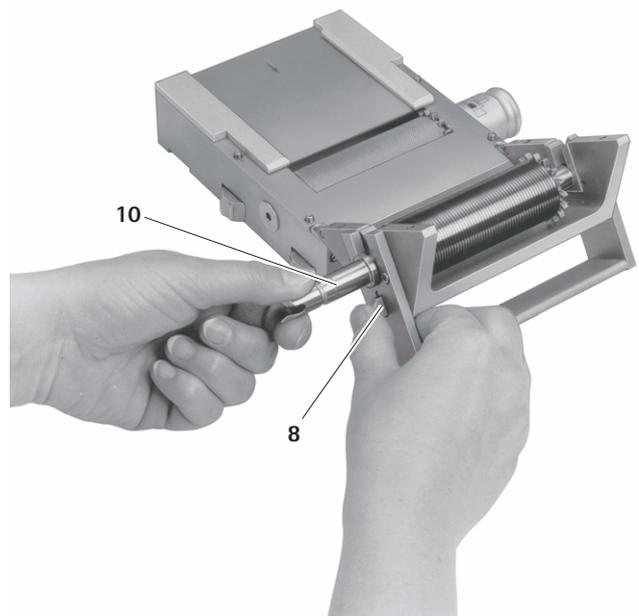

Fig. 3
- ▶ Hold down lock 8 and, at the same time, pull at shaft 10 to decouple cutting cylinder 2, see Fig. 3.
- ▶ Hold cutting cylinder **2** at shaft **10** and press it into bearings **20** until it clicks into position, see Fig. 3.